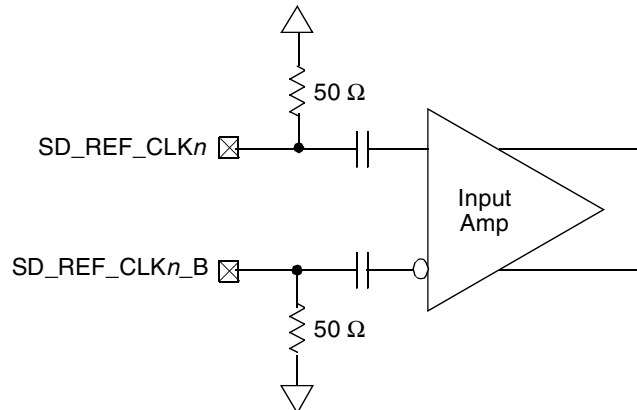

Figure 30. Receiver of SerDes Reference Clocks
- The SD_REF_CLKn and SD_REF_CLKn_B are internally AC-coupled differential inputs as shown in Figure 30. Each differential clock input (SD_REF_CLKn or SD_REF_CLKn_B) has on-chip 50-Ω termination followed by on-chip AC-coupling.